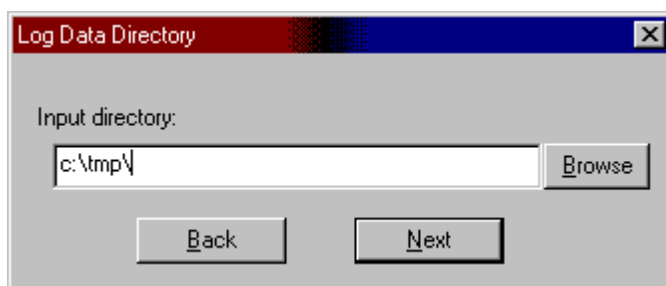

Figure 5.8 Log Data Directory Panel
2. The Log Data Directory panel opens (see Figure 5.8). On the Log Data Directory panel, specify the GraphTool log data directory (folder). GraphTool will save the log data on the floppy disk(s) into this directory. To find an existing directory, select the **Browse** button, and then locate and select the directory. Select the **Next** button to continue: